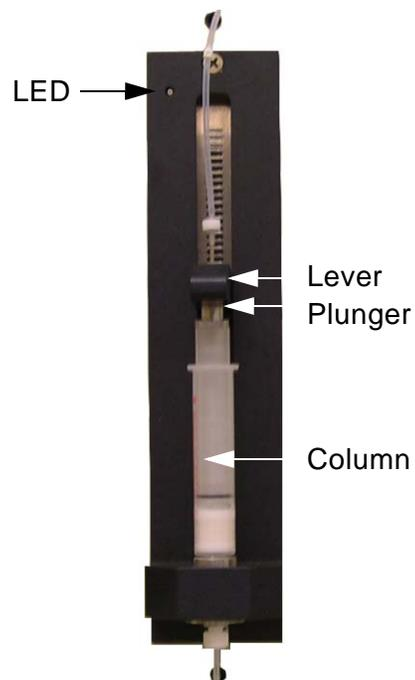

Figure 62. Column Holder Front View
- 9 **For the AutoTrace Cartridge version:** Place columns in each holder to be used by sliding a column upward onto the bottom of the column holder's plunger. Push down on the lever until the assembly "clicks" into place and the holder's LED comes on. See Figure 62.